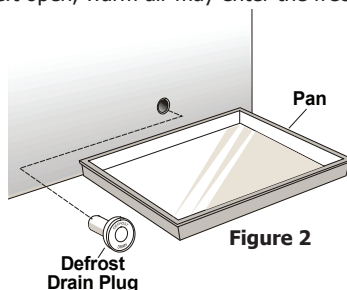
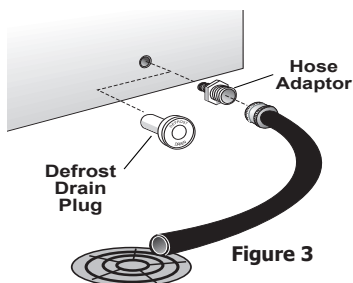

Figure 2
Figure 3
- Place a shallow pan or the Divider/Drain Pan (if equipped) beneath the drain outlet. Pull out the outside drain plug (see figure 2). A  $\frac{1}{2}$  inch garden hose adapter can be used to drain the freezer directly into a floor drain (see figure 3). If your model is not equipped with an adapter, one can be purchased at most hardware stores.